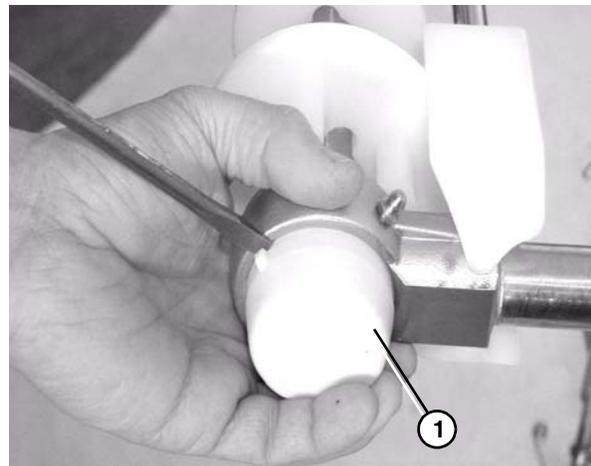

Figure 67
3. Remove the bearing cover (Figure 67, item 1).